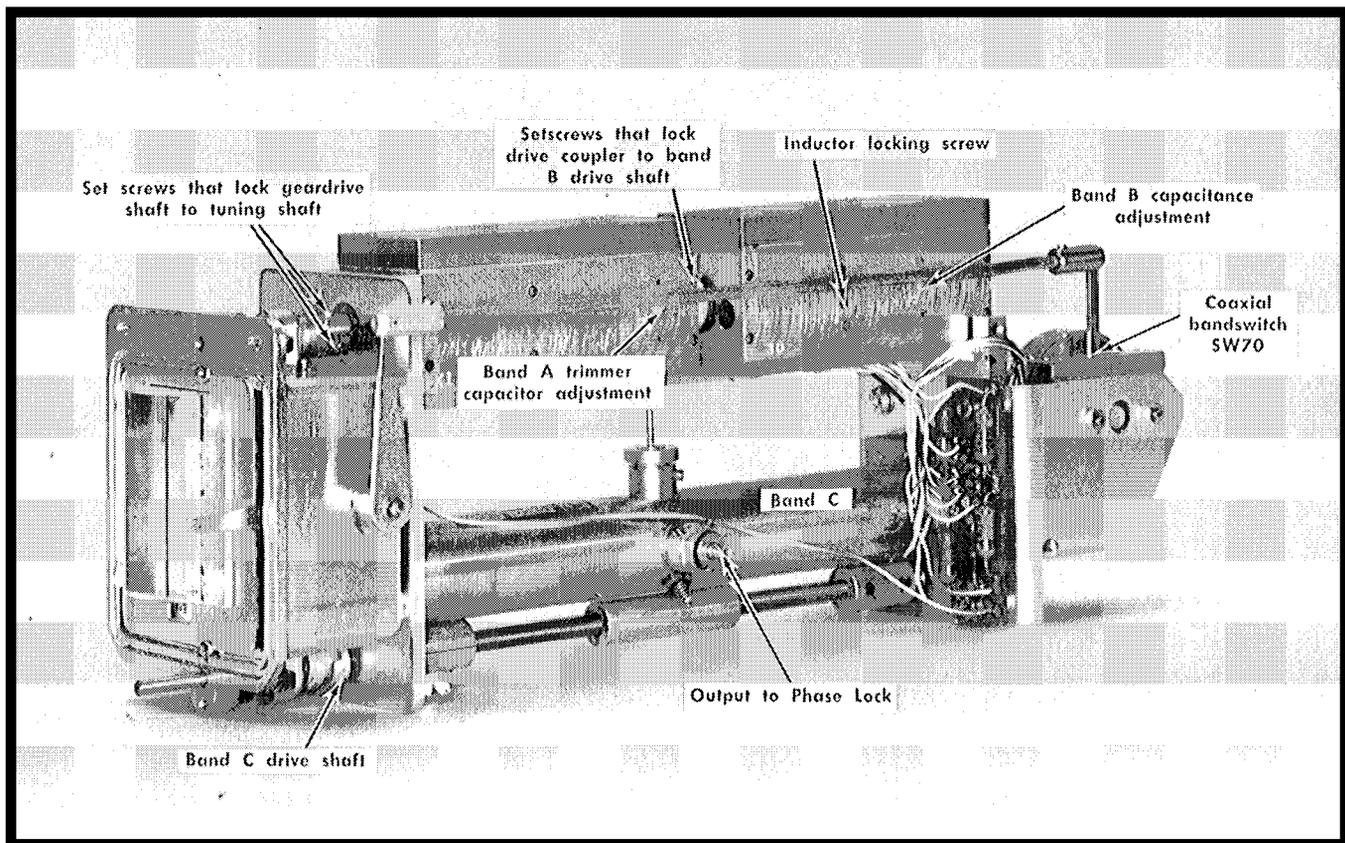

Fig. 6-48. Local oscillator assembly showing drive shaft coupling and tuning adjustments.
4. Position the dial tape to read 175.5 on scale 1 by loosening the set screws locking the oscillator shaft to the dial drive shaft, (see Fig. 6-48) and tuning the dial drive mechanism. Hold the oscillator drive shaft fixed while tuning the dial. Retighten the set screws.
5. Check the dial reading for 635 MHz on scale 2. If dial is incorrect, loosen the set screws holding the coupling between the drive shaft and the tuning shaft (see Fig. 6-48). Tune the dial to read 635. This sets the dial tape to a known frequency point on the tuning curve for both oscillators.
9. Set the frequency meter to 210 MHz. Tune the dial to 10 MHz and adjust the A band inductance adjustment (Fig. 6-48) to tune the oscillator frequency to 210 MHz.
10. Set the frequency meter to 475 MHz. Tune the dial tape to 275 and adjust the A band capacitance adjustment (Fig. 6-48) to tune the oscillator frequency to 475 MHz.
3. Turn the POWER switch to OFF. Loosen the inductor lock screw on the left side of the oscillator chamber (see Fig. 6-48). This screw is on the left side slightly forward of the center point. Do not confuse this adjustment with the high frequency capacitor adjustment located between the two spring-like wires protruding from the side wall.
8. Adjust the band B capacitance adjustment (see Fig. 6-48) to tune the oscillator frequency to 1100 MHz.